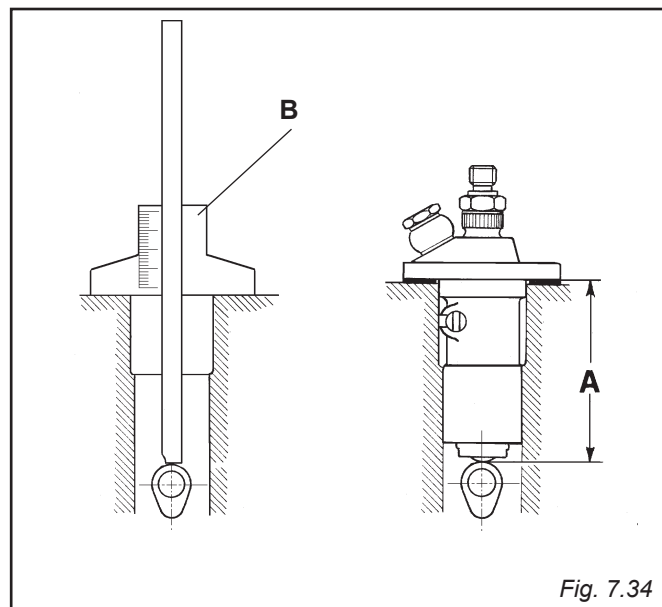

Fig. 7.34
7.17 ASSEMBLY OF INTERNAL INJECTION PUMP AND RELATIVE INJECTION PHASE (SUN 2105-3105 ENGINE) (FIG. 7.34 - 7.35A - 7.35B).
Measure with a depth gauge **B** the height **A** between injection pump mounting face on crankcase and the cam in position of rest (base circle of cam) (Fig. 7.34) .